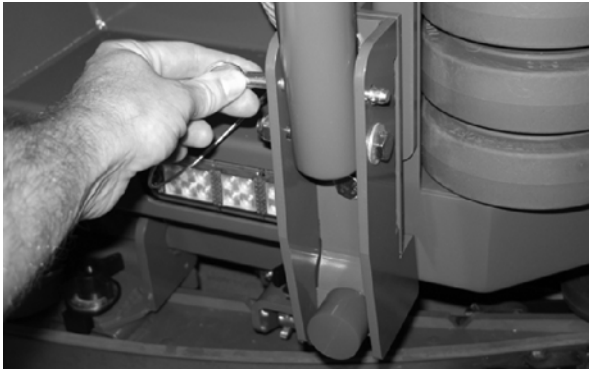

FIG. 7
9. To engage the rear squeegee protector, pull the pin, lower the protector bar, and reinsert the pin. Refer to Fig. 7.
10. To disengage the rear squeegee protector, pull the pin, raise the protector bar, and reinsert the pin. Refer to Fig. 7.